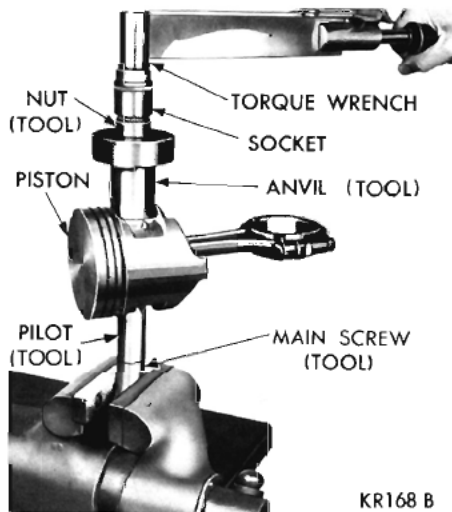

Fig. 110—Testing Fit of Piston Pin in Connecting Rod Tool C-3684
(11) Place the assembly in a vise, as shown in Figure 110.
(12) Attach the torque wrench to nut and test torque up to 15 foot-pounds torque. If the connecting rod moves downward on piston pin, reject this connecting rod and piston combination. Obtain a connecting rod with proper small end bore diameter and repeat the installation and checking procedure.
(13) If the connecting rod does not move under 15 foot-pounds torque, the piston pin and connecting rod interference is satisfactory and the tool may be removed.